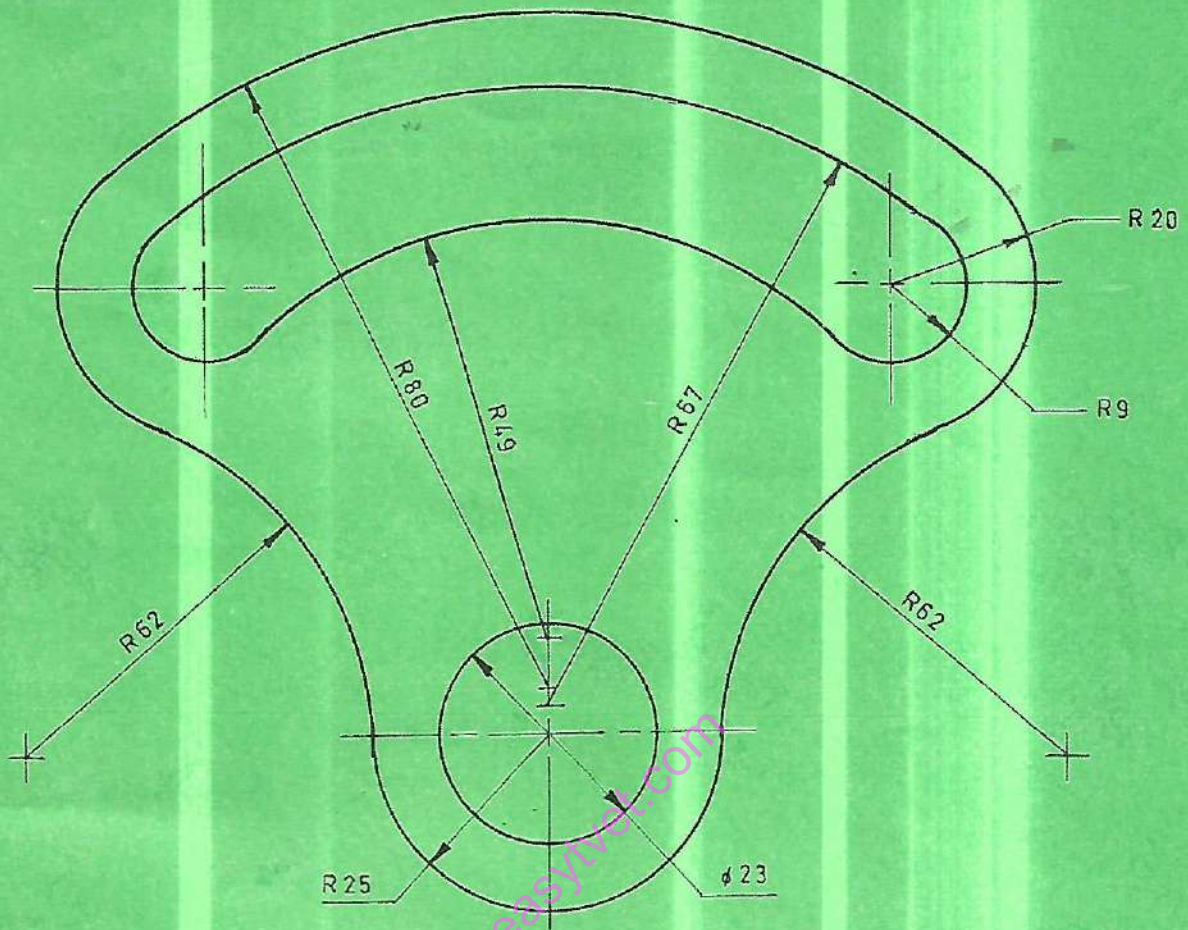

Fig. 2
- (b) The quadrant plate shown in **Figure 2** is symmetrical about the vertical centre line and its uppermost edge is concentric to the line of centres of the three holes. Copy the drawing and show all the construction details and dimensions. (8 marks)